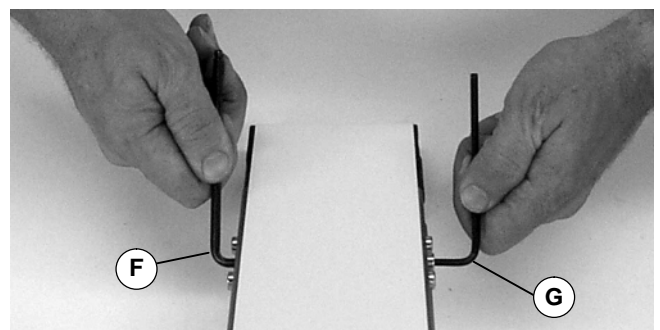

Figure 4
4. While maintaining tension on pinion gear (F of Figure 4) loosen lock screw (G). Rotate pinion gear (F) clockwise to release conveyor belt tension.
12. Secure lock screw (G of Figure 4) to 57 in-lb (6.4 N-m).